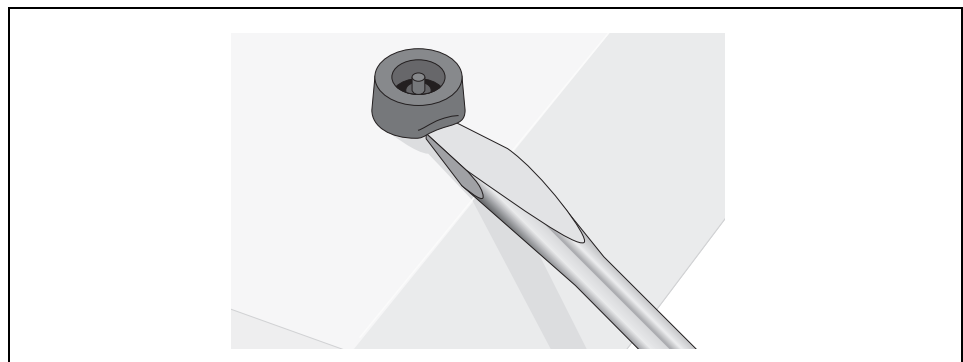

Figure 15. Removing the Feet
2. Using a flat-head screwdriver, remove the snap-on plastic feet from the bottom of the switch, as shown in Figure 15.